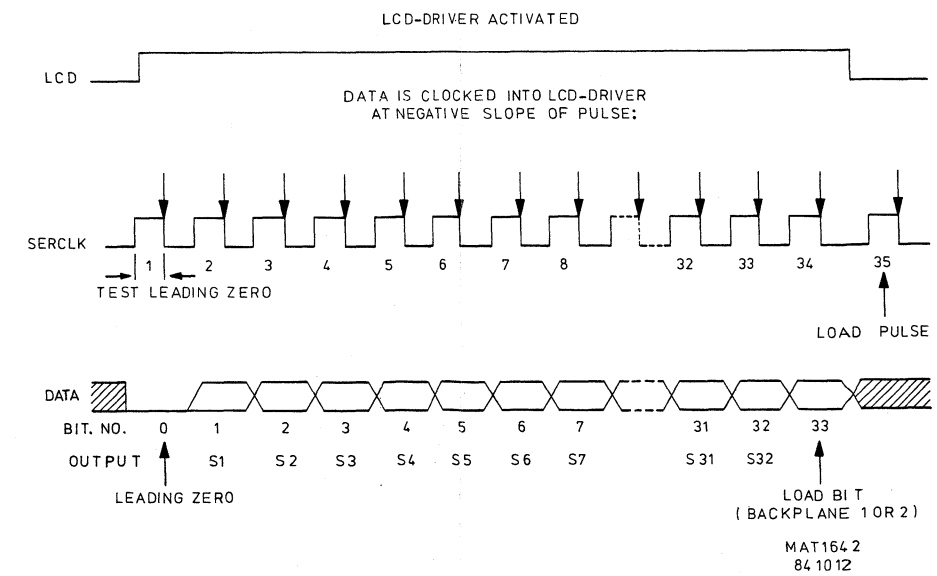

Fig.4.3. Time relation of input signals of LCD-drivers
- DATA (pin 39) is the signal information input. The clock input receives a row of 35 pulses (see Fig.4.3). In parallel with these clock pulses, a row of 34 data-bits is applied to the DATA input. The data is valid at the negative-going edge of each clock pulse. The row of data-bits starts with a zero start bit. Then the following 32 data-bits determine which of the 32 segments of a row must be activated (data-bit high) and which must remain inactive (data-bit low). The last data-bit determines for which backplane the data is intended, LCD backplane 1 (data-bit high) or LCD backplane 2 (data-bit low). This 35th clock pulse ends the information loading cycle.